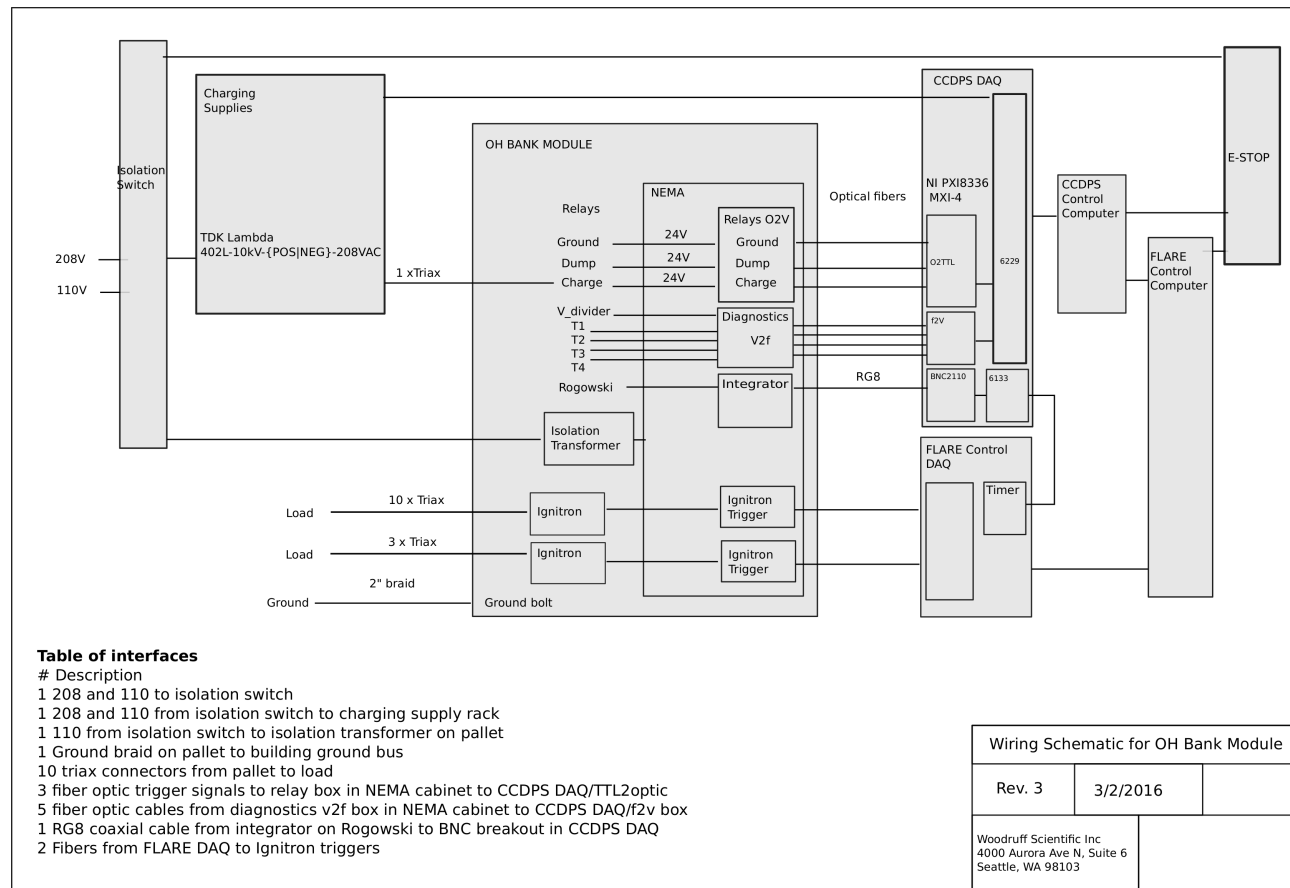
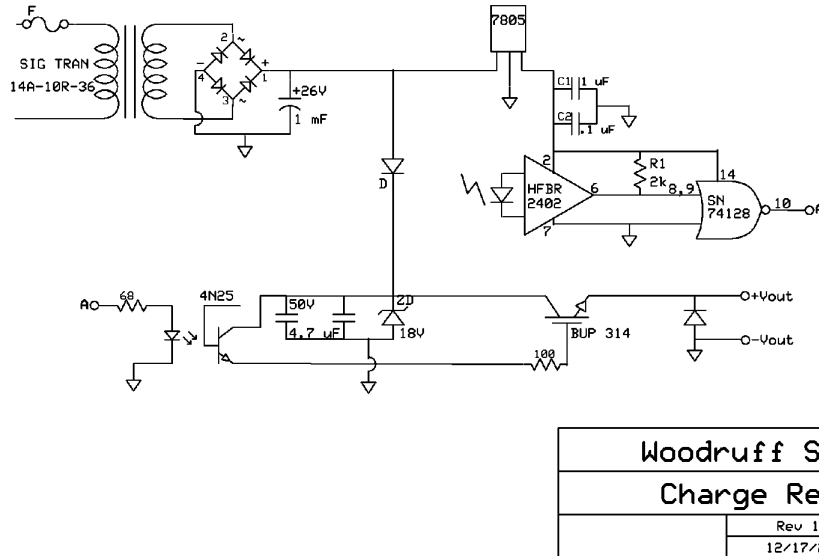

Figure 9: Connections to the bank.
Figure 10: Schematic for charge, dump and ground relay control.
The connection schematic shows all of the connections that need to be made to the bank modules, power and control systems. From the left of Fig. 9, 208 and 110 power is fed to the bank enclosures via a Kirk key controlled isolation switch. This same switch can be energized by an Emergency Stop (E-stop) button located in the control room (this E-stop is digitized by both the FLARE control DAQ and the CCDPS control DAQ). If energized, the switch will drop all power to the enclosure, thereby killing power to the HV dump (normally closed) and charge (normally open) relays, and dumping bank energy into the cap dumps. The 110 and 208 power is delivered to the charging supply rack (located on it's own separate pallet), and 110 is also delivered to an isolation transformer mounted on the bank module pallet. Connections to the load are made by multiple triax cables (described above). Water is connected to the ignitron switches along 1/4" tubes from a shared chiller unit. The charge, dump ground relays are controlled by individual fiber-optic-enabled switches, with pulse signals sent from the CCDPS DAQ rack (Schematic shown in Fig. 10). Temperature sensor data are transmitted by fiber-optics from the pallet to the DAQ after conversion of voltage to frequency, then reconverting at the DAQ. A BNC connection is made from the current sensor integrator to the DAQ fast data acquisition (sampling at at least 1MHz). Timing synchronization is provided by the FLARE control DAQ. Switch firing is controlled here by the FLARE control computer and DAQ, by transmission of fire signal by fiber-optic connection. CCDPS DAQ requires 110V as input. CCDPS control computer requires 110V as input.
- Control signals needed as inputs: ESTOP and triggers (see Fig. 9)